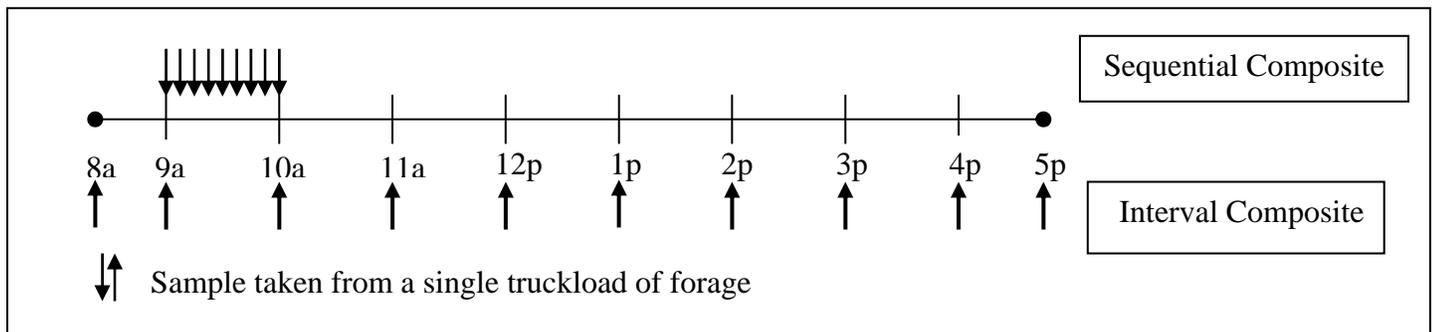

Figure 1. Example of truckload samples taken to create Sequential (top) and Interval (bottom) composites.
Our objective was to determine if differences exist in calculating dry matter (DM) removal based on various intensities of sub-sample and composite collection. We collected a representative sample and noted the forage weight from every truck unloaded from a single corn field on three dairies. Actual DM removed was calculated by summing truckload weight * DM for all collected samples. Field DM removal totals were calculated using two composite sampling methods (sequence and interval). Sequence values are the average of sample DM within an hour of harvest; for example, forages from trucks that unloaded between 9a and 10a (see **Figure 1**). Interval values are the average of every 10th sample collected, for example, forage that was unloaded at 9a, 10a, 11a, etc.
When *Mycoplasma spp.*, *Strep. ag.* or *Staph. aureus* are identified in BTM, it almost always indicates that there are infected quarters in the herd. *Staphylococcus aureus* is shed in low numbers and an attainable goal is less than 50 CFU/mL. BTM pathogen culture results from Jan-08 to Dec-08 are presented in **Figure 1**.
Figure 1. Percentage of herds with at least one positive culture a month for mycoplasma spp. (Left), *Strep. agalactiae* (Center), bacterial counts equal or greater to 50 CFU of *Staph. aureus* (Right).